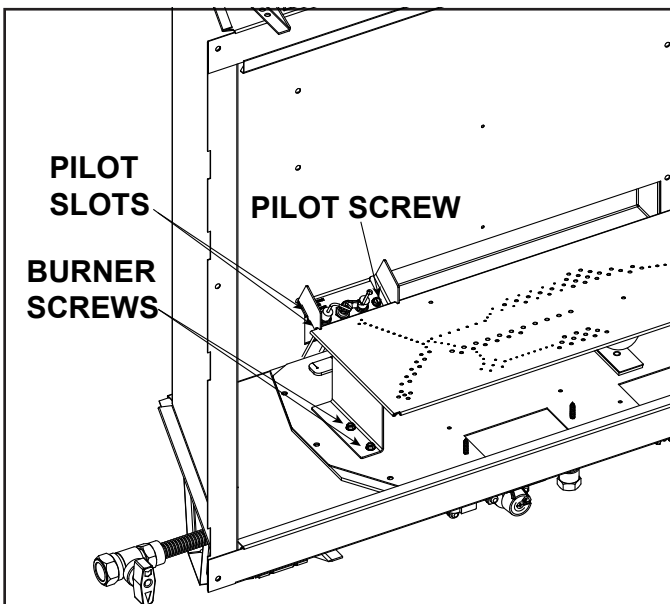

Figure 4. Screw and Pilot Slot Locations
17. Install burner assembly securing it with two screws. Replace the pilot assembly by sliding it into the slots located on the left side of the pilot bracket and securing the pilot assembly with one screw. See Figure 4.
8. Remove the one screw connecting the pilot assembly to the pilot bracket. Reposition the pilot assembly outside the bracket to remove the burner. Shift pilot slightly to the right while pushing pilot back off of the pilot bracket. See Figure 4.
9. Remove the burner from the appliance by removing the two screws on the left side of the burner leg. Slide the burner forward in order to disengage the burner from the air shutter. See Figure 4.